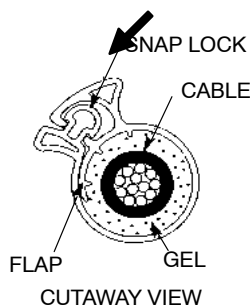

FIGURE 3
6. Starting at one end of the gel wrap sleeve compress the snap locks over the entire length of the sleeve. Ensure that flaps seat under snap locks as shown in Figure 3.